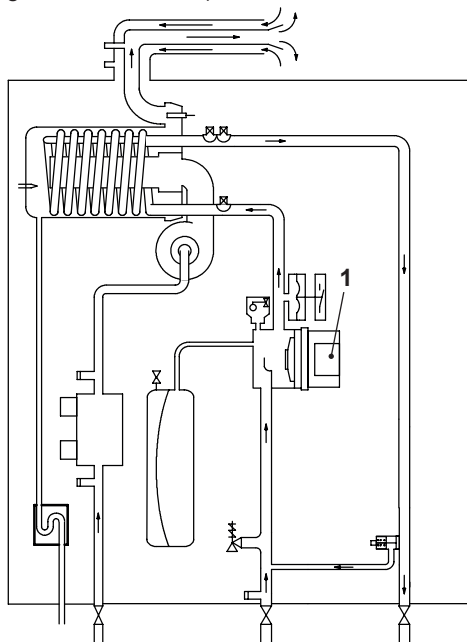
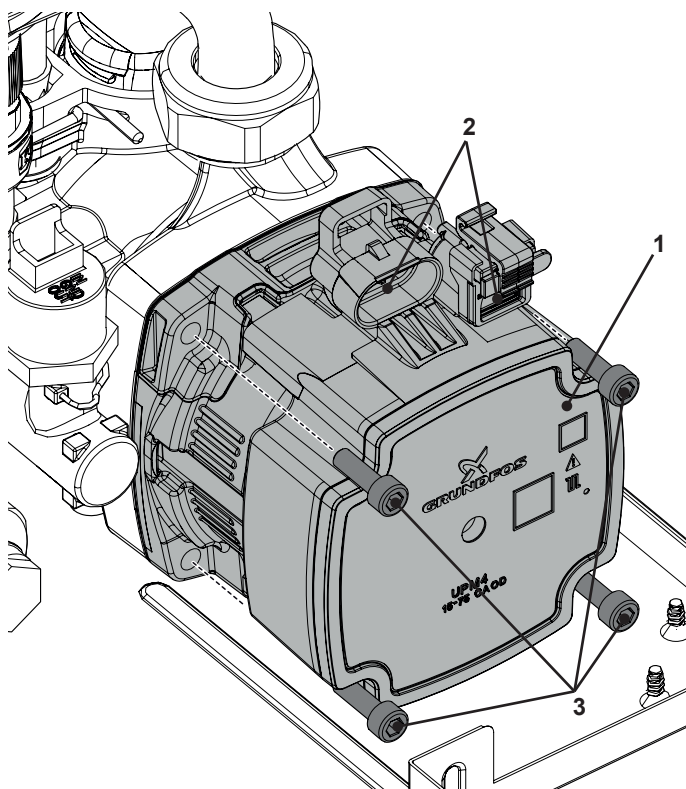

Figure 6.1
Figure 6.2
The pump "1" in Figure 6.1 and Figure 6.2 has the function of making the water in the main circuit circulate through the main condensing heat exchanger and therefore through the C.H. system (during the C.H. function).
- 3 Disconnect the connectors "2" (Figure 6.2).